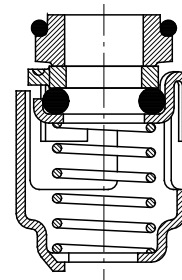

Fig. 12 Shaft seal
As standard, the CRT(E) range is fitted with a Grundfos type A shaft seal suitable for the most common applications, see Fig. 12.